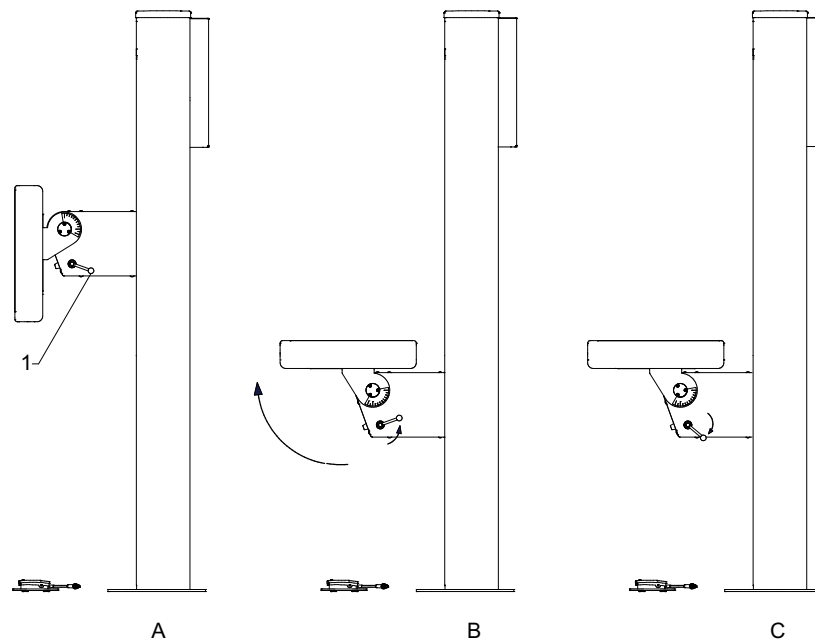

Fig. 3-14 Tilting detector holder
To position the handle (See pos.1 in Fig. 3-14 *Tilting detector holder*, in its start position);